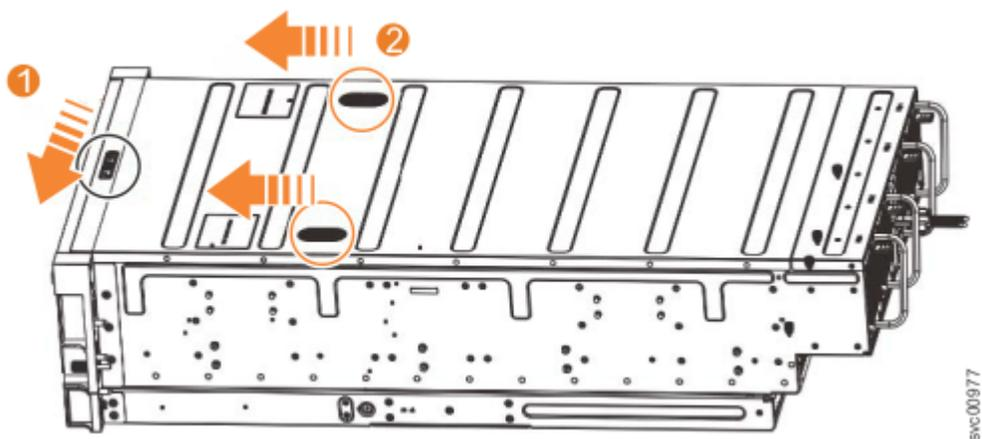

Figure 52. Releasing the 2145-92F cover
1. Slide the release latch (1) in the direction that is shown in Figure 52 on page 57.
2. Slide the cover toward the front of the expansion enclosure (2), as shown in Figure 52 on page 57.